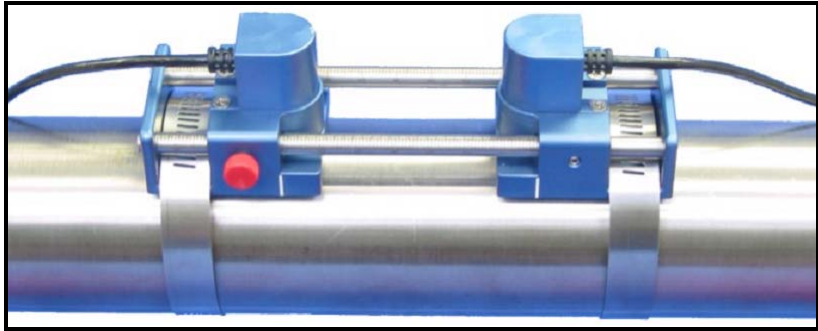

Figure 1-8: A Typical Transducer Installation
2. Put the transducer fixture at the desired location on the pipe. Secure it with the supplied stainless steel clamps. Figure 1-8 on the next page illustrates a typical installation.